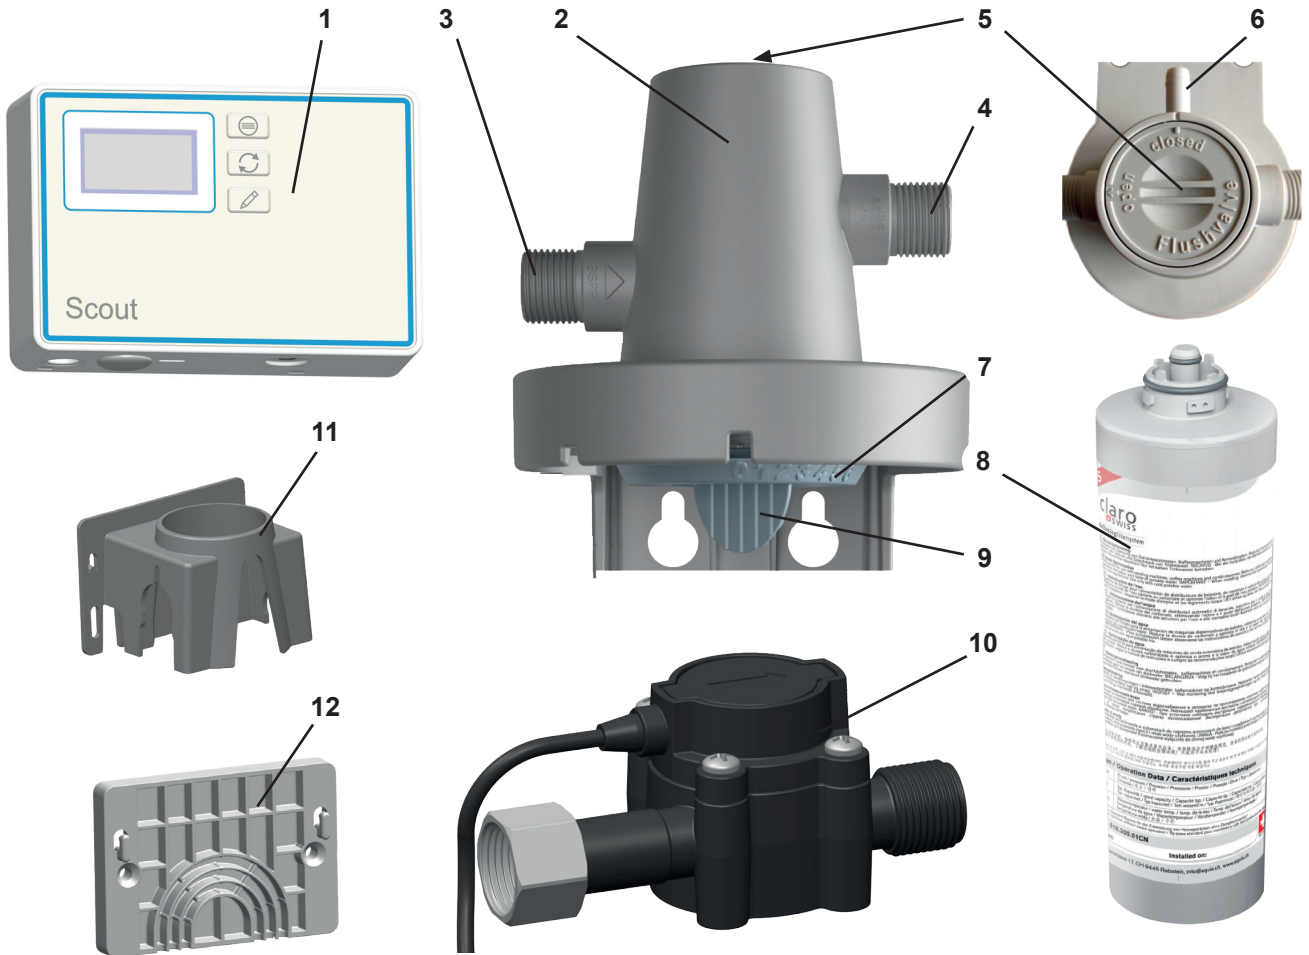

Fig. 1
- 1 Flowmeter (items 1, 10, 11, 12, Fig. 1) for POWER steamer water softener
⇒ Screw one adapter (3/4" - 3/8") onto the connection of the sensor unit (10, Fig. 1).